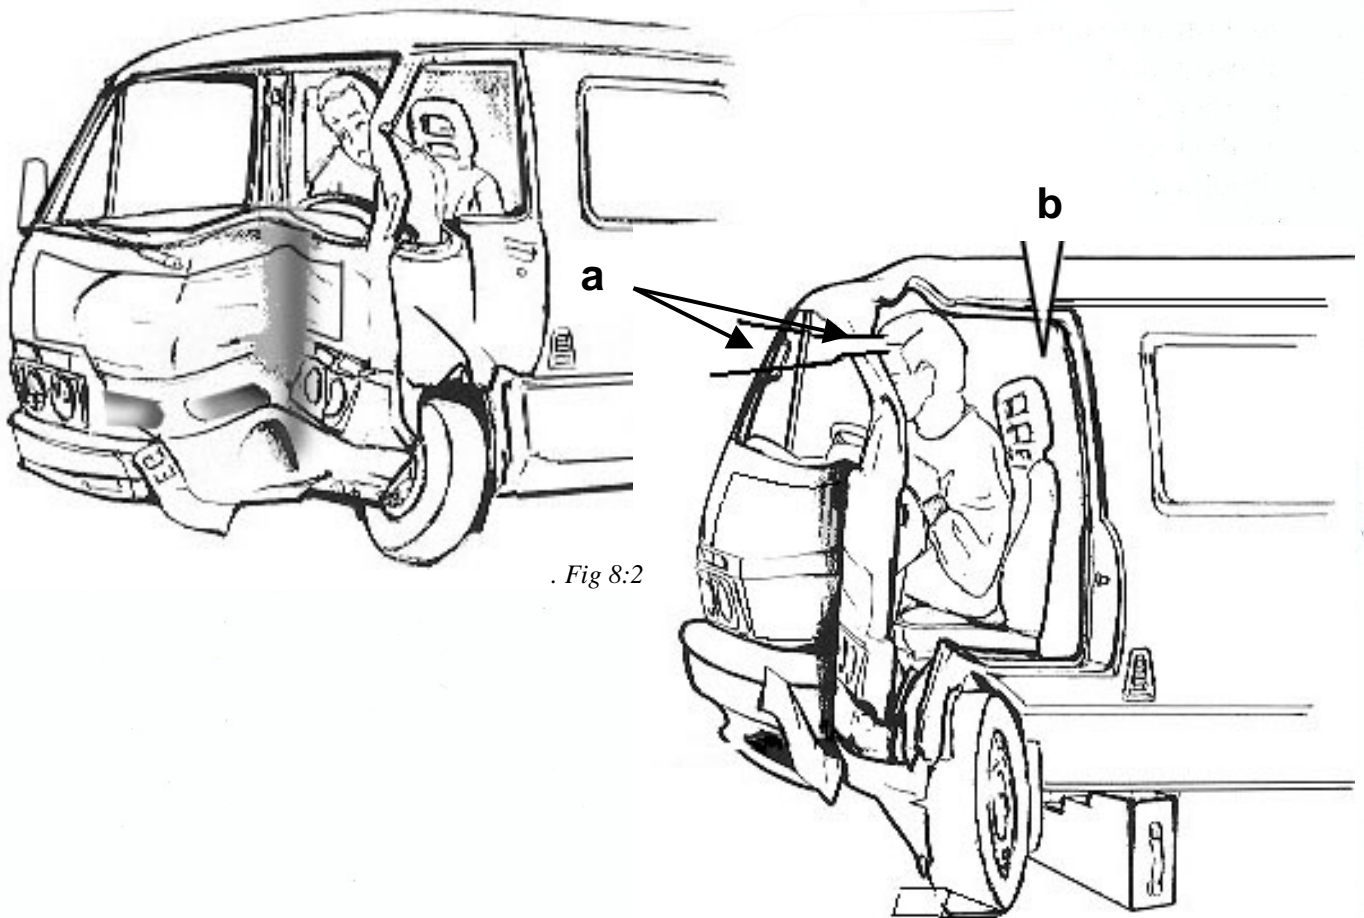

Fig 8:2
5. Shear the roof siderail, at the rear of the front door opening, on either side of the vehicle (b) Fig 8:2. With the high sided panel van, it will be necessary to re-introduce a cutter and continue cutting to overcome the shaping on the side of the roof structure prior to attempting roof flap back.
6. Flap and secure the roof. Fig 8:4.